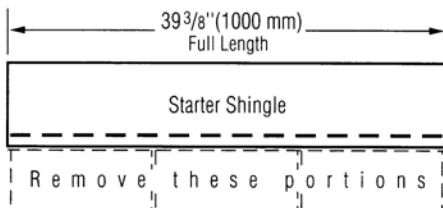

Figure 12-12: Make starter shingles by removing the lower tabs.
1. The starter course consists of shingles from which the lower tabs have been removed (*Figure 12-12*). Remember, the sealant on starter courses should lie as close as possible to the eaves edge of the roof.
3. Cut off and discard the tabs on all the shingles used to complete the starter course. Apply the starter course along the eaves (*Figure 12-12*).